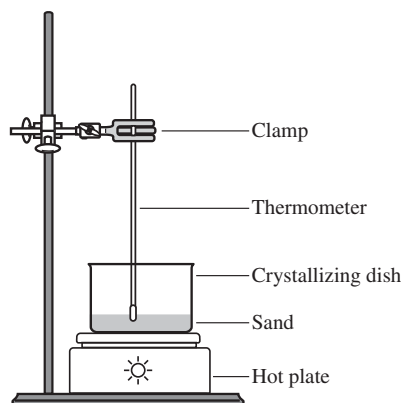

Figure 1.
- The product is nearly white with a pale pinkish cast. It is quite hygroscopic, with the hydrated form having a more distinctly pink color. Some hydration between heating and weighings is almost unavoidable, and of the sources of experimental error listed in the Conclusions, it is the only one that leads to yields $>100\%$. Anhydrous manganese(II) chloride is quite thermally stable, so the decomposition referred to is not likely to occur.
- An effective and safe sand bath can be assembled using fine white sand and a crystallizing dish (See Figure 1.).